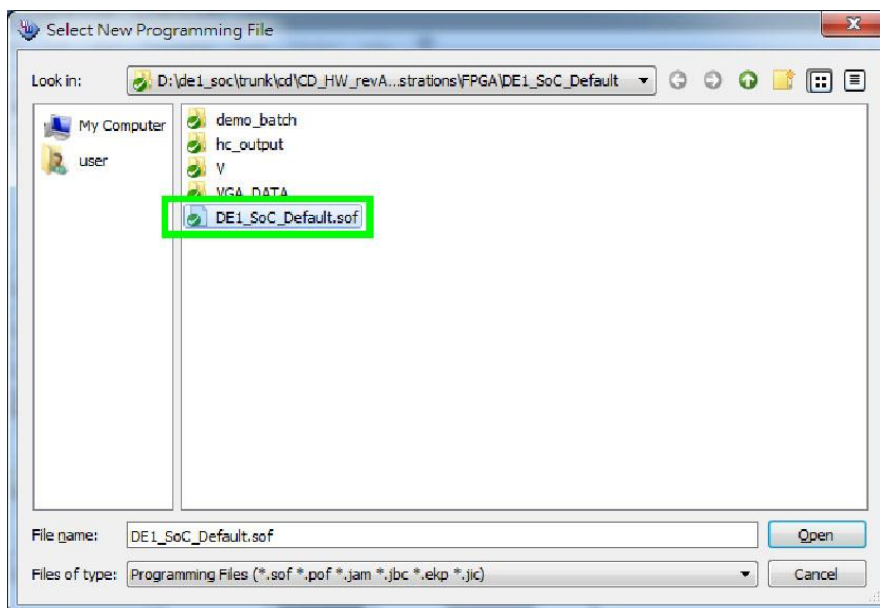

Figure 3-7 FPGA JTAG Programming Steps 5
- Select .sof file for FPGA as **Figure 3-7**